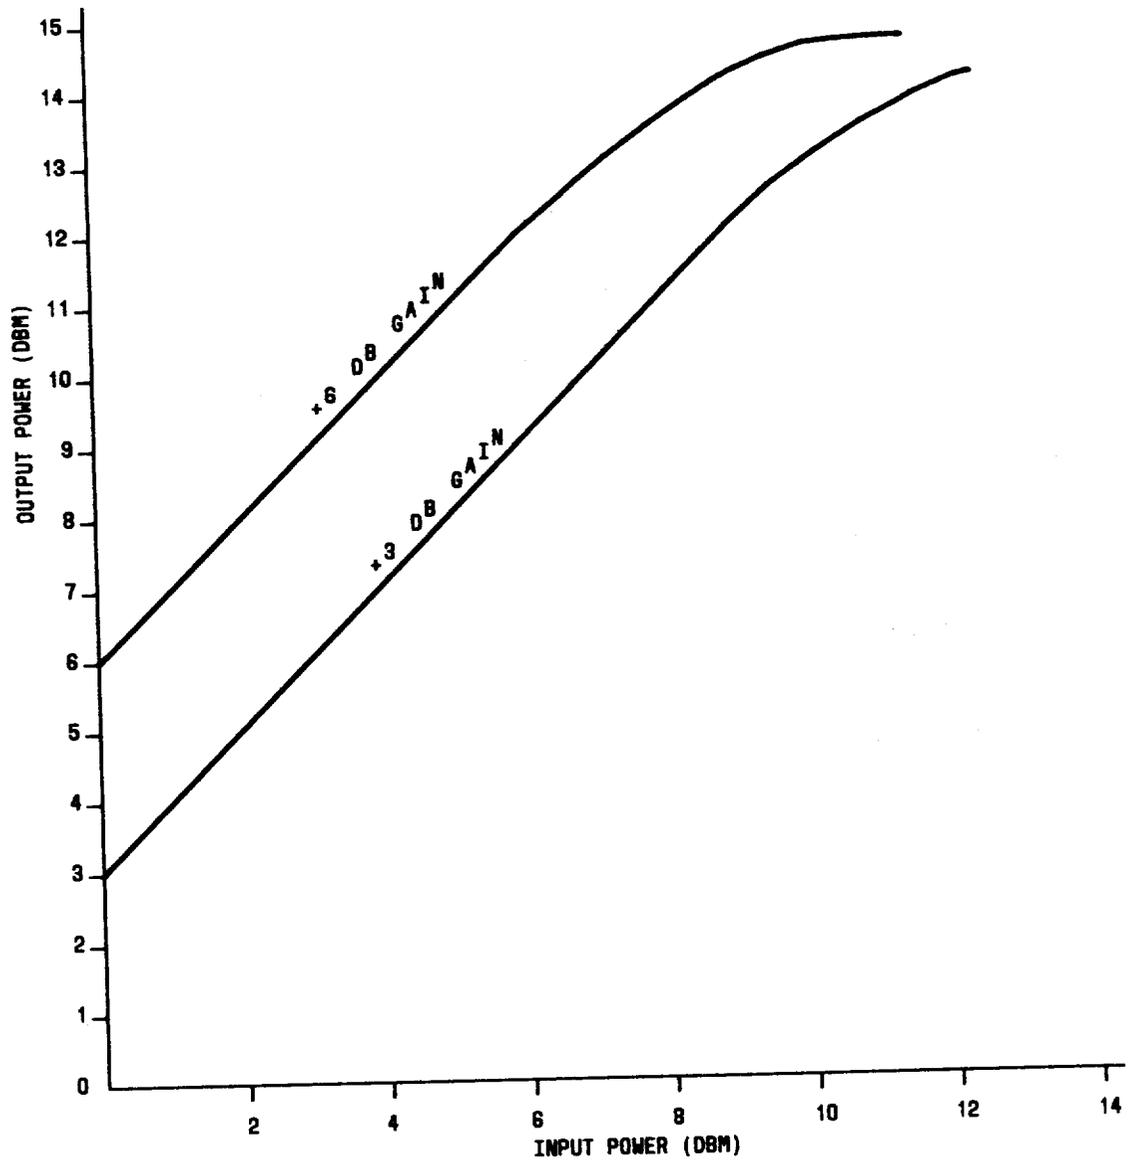

Fig. 6—Output Power Capability
4.05 Figure 6 shows the output power capability of the 2-wire dual terminal (L) repeaters. The output power is determined by input power and repeater gain, as shown by the +6 dB gain line in the figure. Power limiting occurs in these units at about 11 dBm.